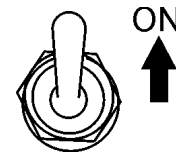

Figure 31. Idle Control switch (ON)
- Place idle control switch switch (Figure 31) in the **ON** position.